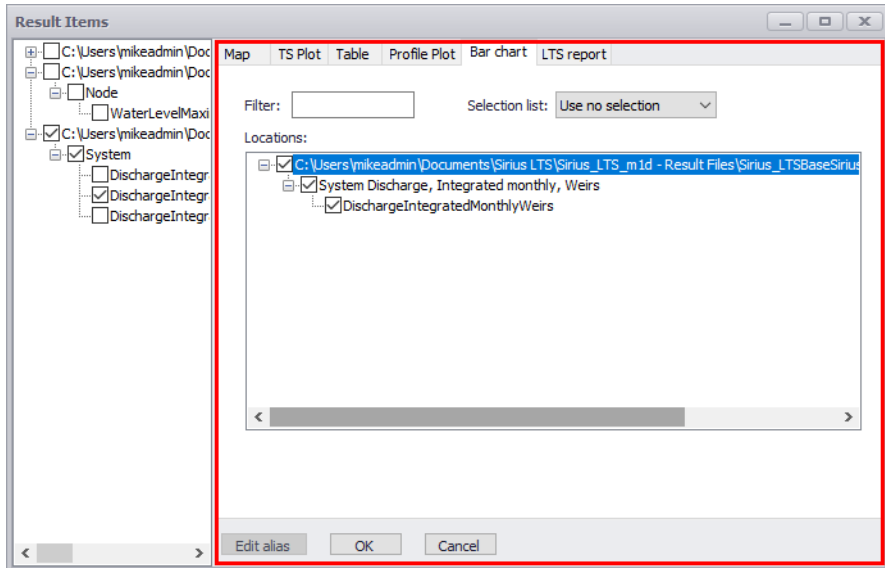

Figure 20.65 The Bar Chart tab on the Result Items dialog
- Access the ‘Bar Chart’ tab on the ‘Result Items’ dialog (Figure 20.65).
- Select the items and locations which shall be plotted on a bar chart (Figure 20.65). Note that it is not possible to customize data series labels (i.e. Edit alias) for bar charts, nor is it possible to edit existing bar charts.